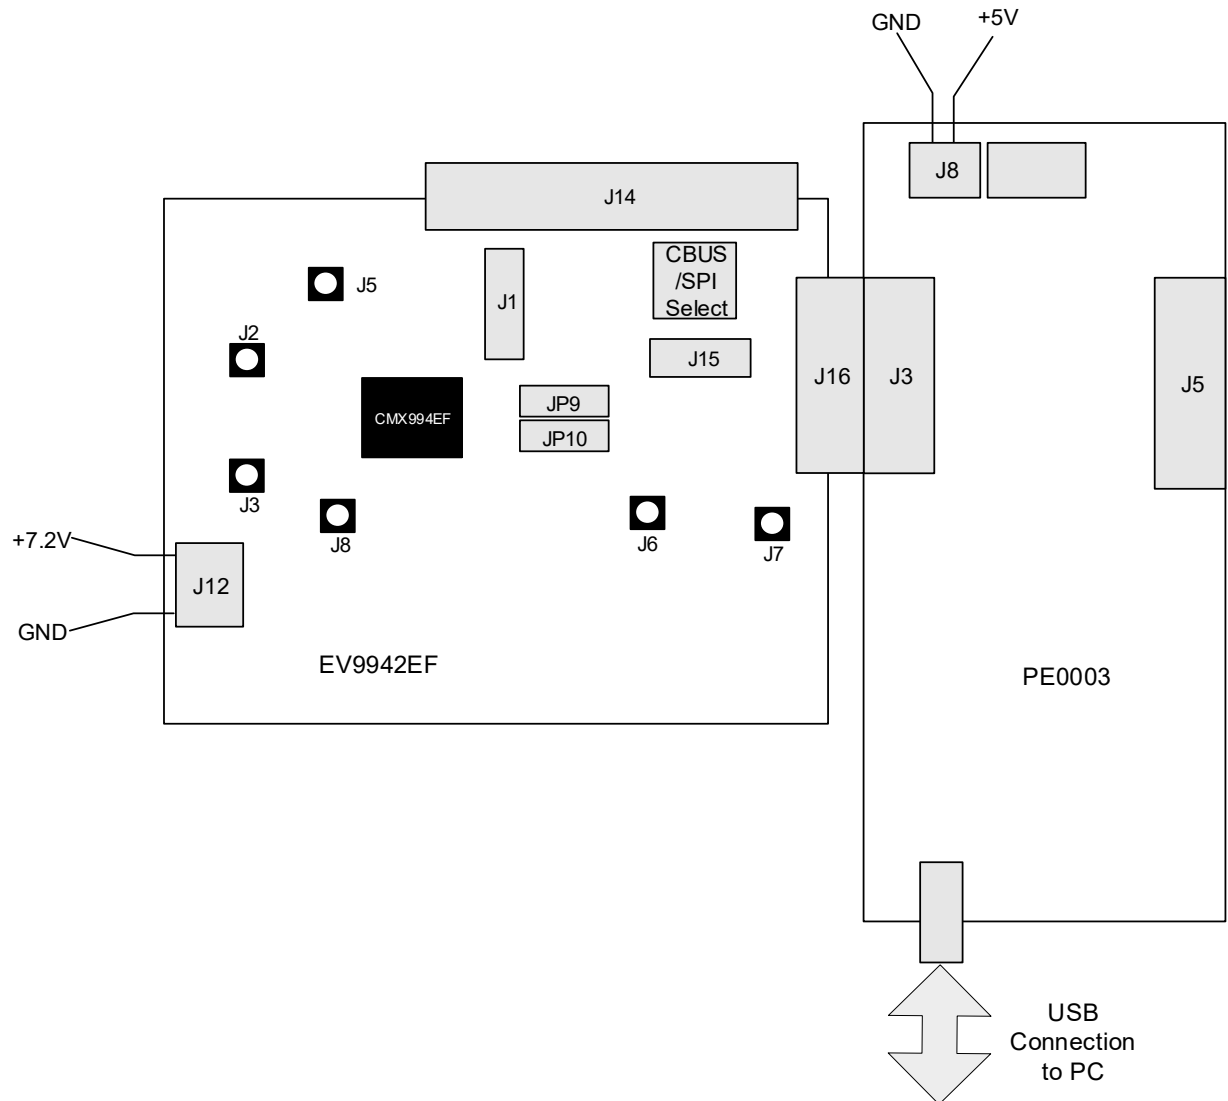

Figure 3 - EV9942EF Connection to PC Using PE0003
2. Connect a controller to C-BUS interface J16 (PE0003 can be used – see Figure 3. Note: J3 or J5 can be used on PE0003, but ensure the correct C-BUS port is selected when programming data: Figure 3 shows PCB connected using port 2).